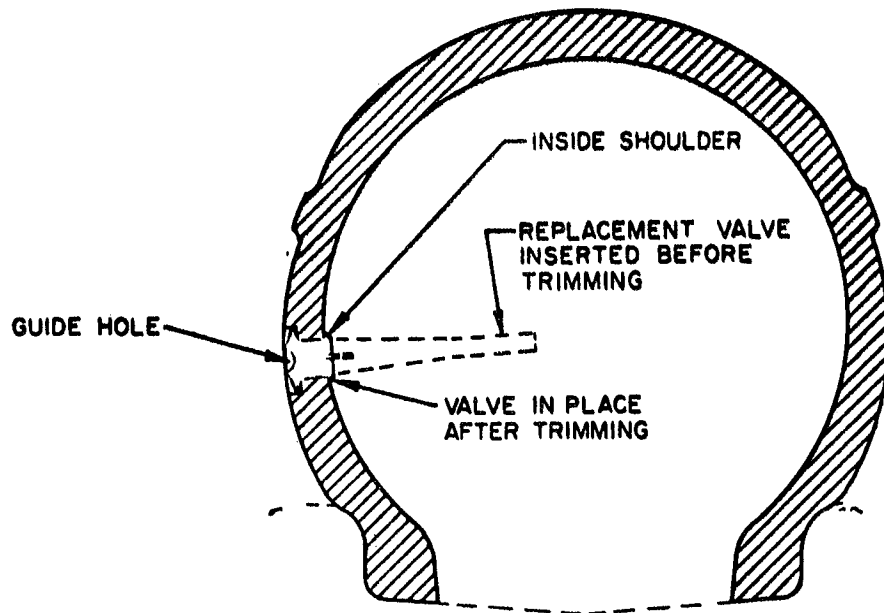

Figure 1 Sidewall Valve Tubeless Tire (Cross-section)
- c. Lubricate the end of the inflating needle by pressing it against the glycerine-saturated pad in the case, then lubricate the guide hole of the blue-colored valve with the needle. (See Figure 1).
- b. Cut off the inside shoulder of the sidewall valve to be removed with a pair of pincers or side-cutting pliers. (See Figure 1.)
- e. Insert the small end of the tapered replacement valve through the valve hole in the tire wall from the outside. (See Figure 1.)
- g. Cut off the tapered extension of the replacement valve (just below the shoulder) on the inside of the tire with a pair of pincers or side-cutting pliers. (See figure 1).